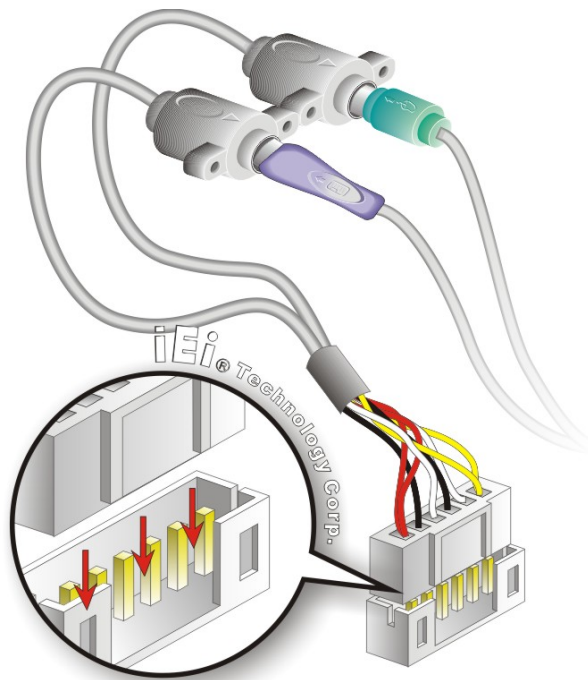

Figure 5-11: Keyboard/mouse Y-cable Connection
- Step 2: Align the connectors.** Correctly align pin 1 on the cable connector with pin 1 on the PCIE-9450 keyboard/mouse connector. See **Figure 5-11**.
- Step 3: Insert the cable connectors** Once the cable connector is properly aligned with the keyboard/mouse connector on the PCIE-9450, connect the cable connector to the onboard connectors. See **Figure 5-11**.